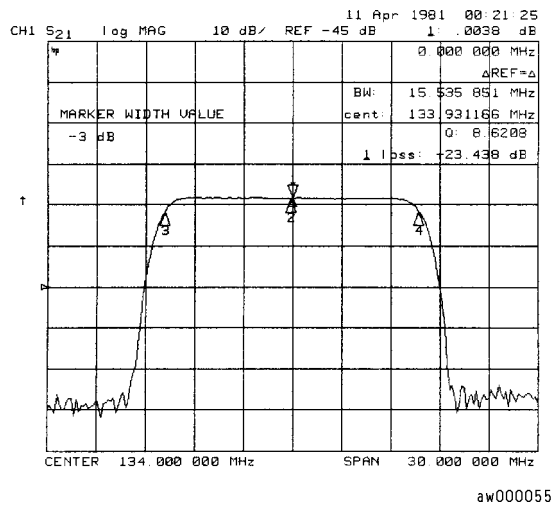

Figure 7-11. Example of Searching for a Bandwidth Using Markers
- 3 Press **WIDTHS ON** to calculate the center stimulus value, bandwidth, and the Q of a bandpass or band reject shape on the measurement trace, as shown in **Figure 7-11**.